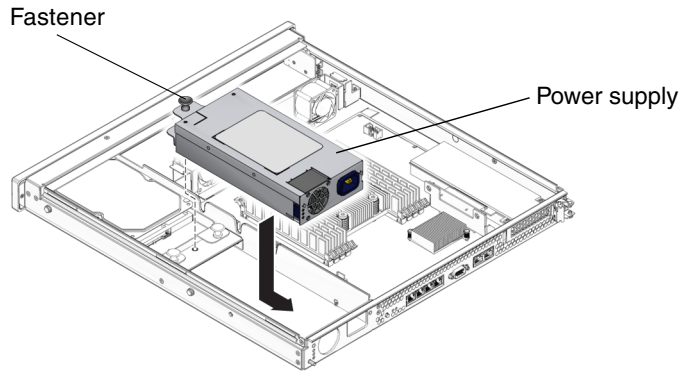

FIGURE 3-8 Replacing the Power Supply
3. Tighten the fastener (FIGURE 3-8) to lock the power supply into place in the chassis.